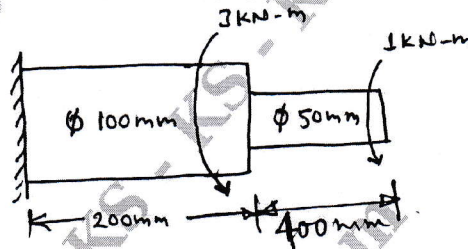

Fig.Q.6(b)
b. A solid stepped bar of circular cross section as shown in Fig.Q.6(b). Subjected to torque of 1kN-m at free end and torque 3kN-m at change in C/S. Determine angle of twist and shear stresses in bar $E = 2 \times 10^5\text{N/mm}^2$ $G = 7 \times 10^4\text{N/mm}^2$. (10 Marks)